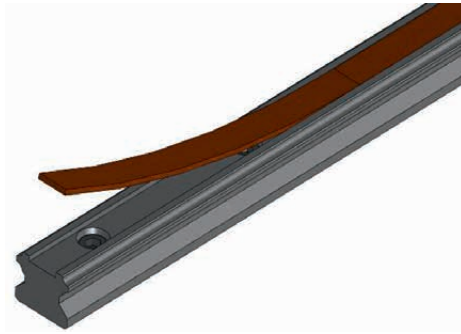

Fig. 4.2 Inserting the magnetic scale
- ▶ Pull the adhesive film from the magnetic scale. Insert the magnetic scale in the groove by hand with the adhesive surface against the profile rail (see Fig. 4.2).